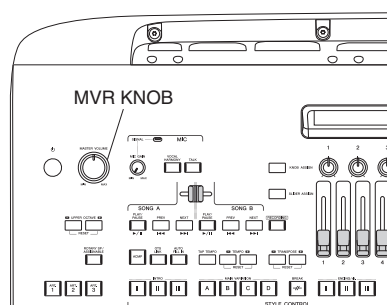

Fig. 6
- 13-1 Before disassembly, remove the MVR knob. (Fig. 6)